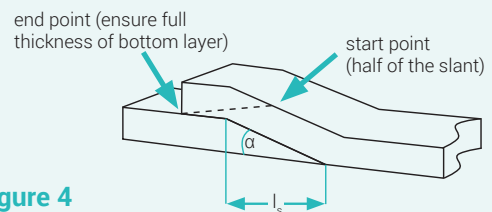

Figure 4
- For the second skive cut mark the start and end points (figure 4).